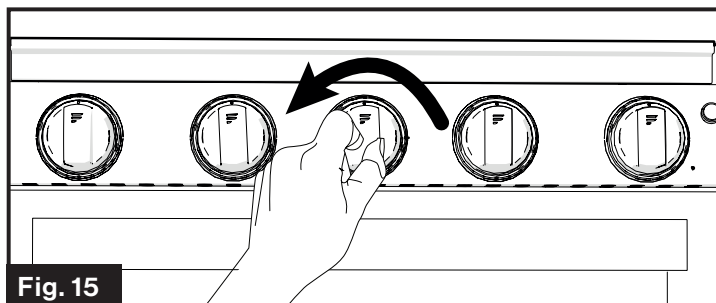

Fig. 15
5. Rotate the burner control knob to adjust the flame to desired level. (Fig. 15)